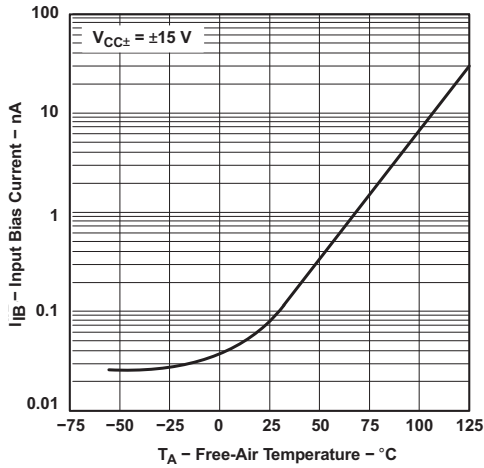

Figure 1. Input Bias Current vs Free-Air Temperature
- (1) All characteristics are measured under open-loop conditions with zero common-mode voltage, unless otherwise specified.
- (2) $T_A = -40^\circ\text{C}$ to 85°C .
- (3) Input bias currents of an FET-input operational amplifier are normal junction reverse currents, which are temperature sensitive, as shown in Figure 1. Pulse techniques must be used that maintain the junction temperature as close to the ambient temperature as possible.
- (1) Input bias currents of an FET-input operational amplifier are normal junction reverse currents, which are temperature sensitive, as shown in Figure 1. Pulse techniques that maintain the junction temperature as close to the ambient temperature as possible must be used.
- (2) All characteristics are measured under open-loop conditions with zero common-mode voltage, unless otherwise specified. Full range is $T_A = -55^\circ\text{C}$ to $+125^\circ\text{C}$.